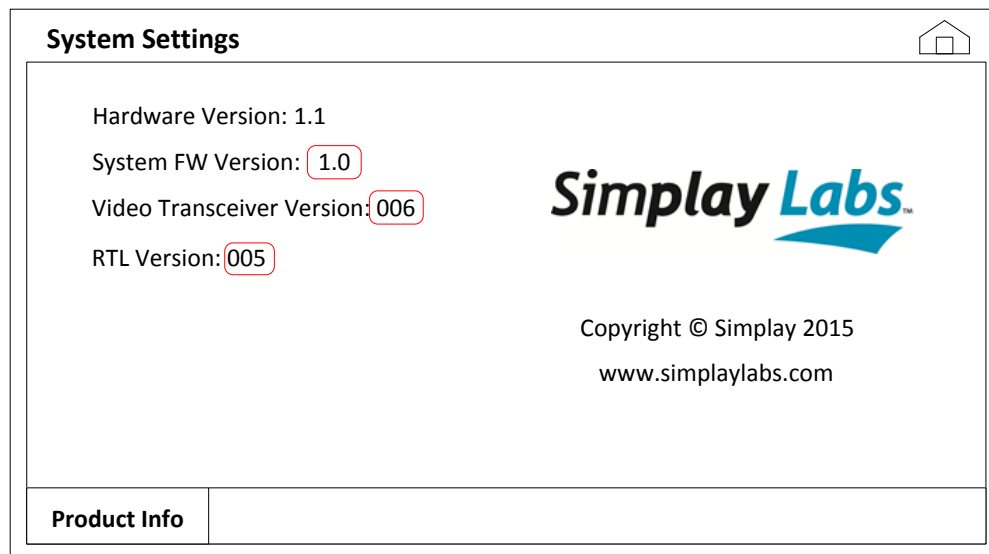
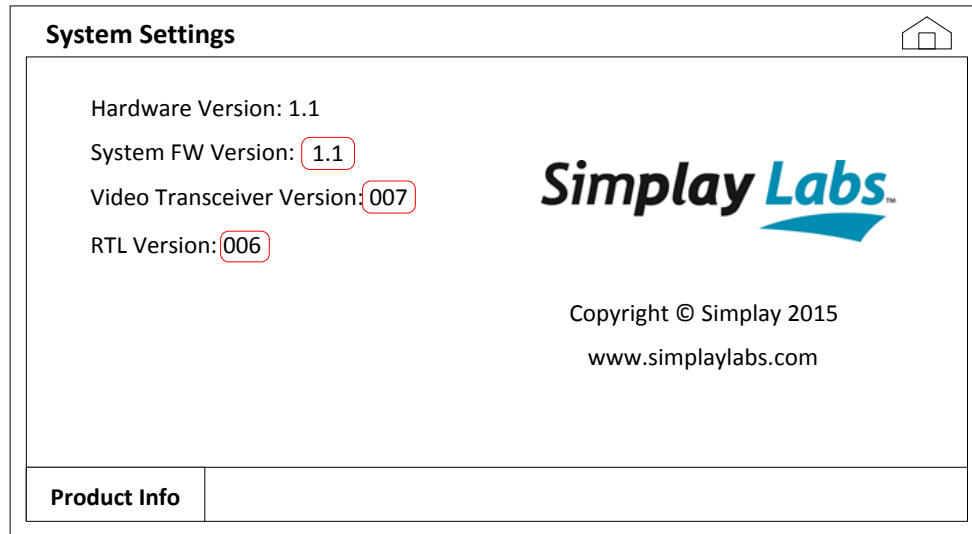

Figure A.3. System Settings Window Shown on the SL-881 LCD Touch Screen
Figure A.7. System Settings Window after Successful Firmware Updating
5. In the System Settings window (Figure A.3), you can see the current version information. Write down the System FW Version, Video Transceiver Version and RTL Version for a later check.
2. The System Settings window appears. Compare the System FW Version, Video Transceiver Version and RTL Version in the current window (Figure A.7) with the one (Figure A.3) you have written down. If the version number changes as expected, the firmware is updated successfully.